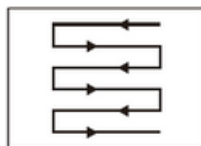

Fig. 25
4. Mow in slightly overlapping strips. The most efficient way to mow is to run the mower in straight lines along one side. This will ensure even strips and ensure the entire lawn is mowed without any missed areas (Fig. 25).